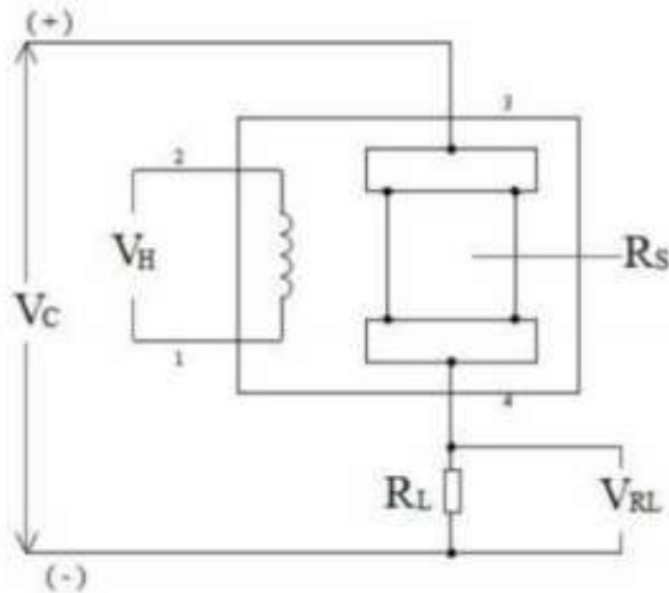

Figure 3 Basic Test Circuit of MP511D Sensor
The module uses an MP511D sensor, and Figure 3 shows the basic testing circuit of the MP511D sensor. The sensor requires two voltages to be applied: heating voltage (VH) and testing voltage (VC).